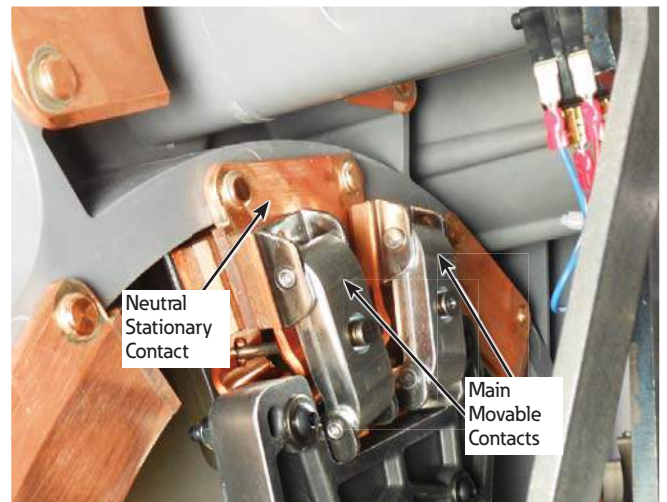

Figure 25. Neutral stationary contact position for main movable contacts
- A. Main movable contacts are located on the neutral stationary contact, which is located at the 11 o'clock position. See Figure 25.